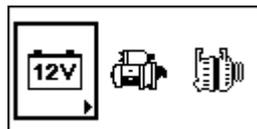

Fig.12
7. Once you had selected, example  the display will change to the MENU display as (Fig. 12) below: